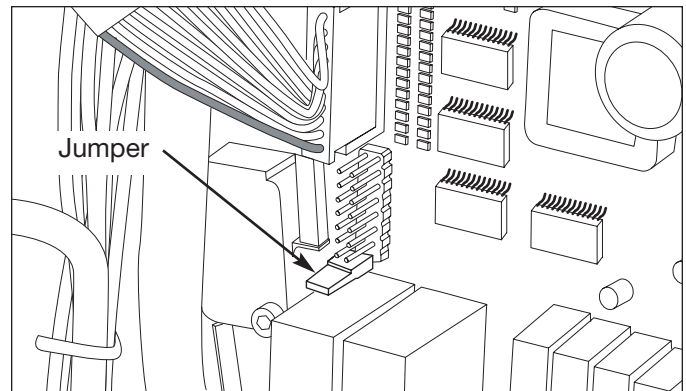

Figure 4-32. Remove Jumper From Old Board
5. A jumper is mounted to the bottom set of pins on the 16 pin connector. Remove jumper from old control board and install on new control board. (See Figure 4-32)